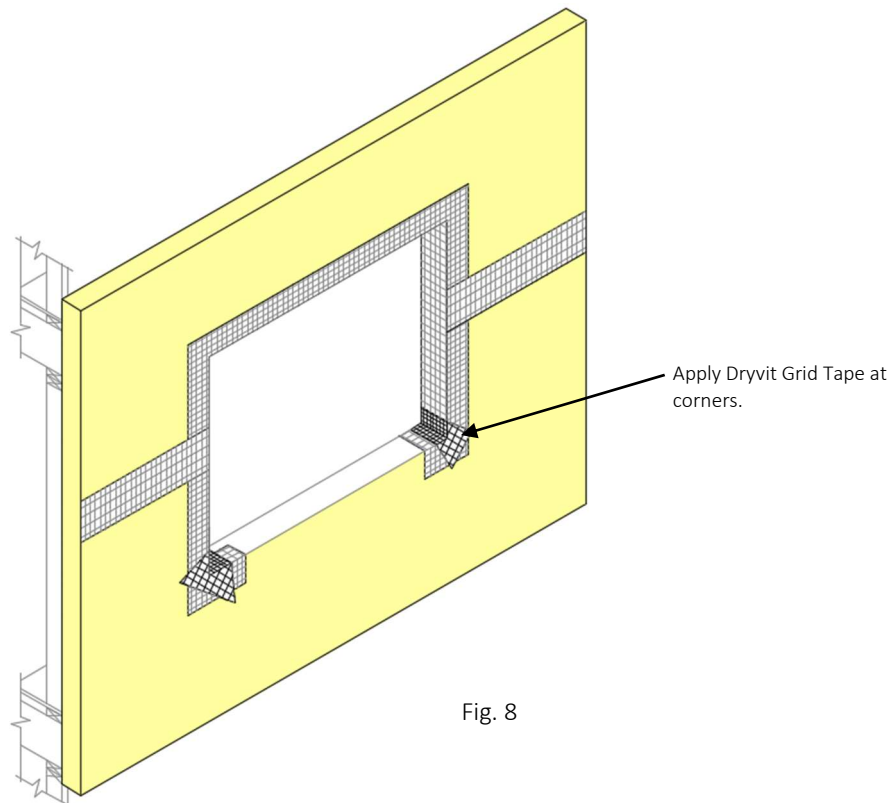

Fig. 8
- 1) Apply Dryvit Grid Tape along the jambs and head of the opening as well as all sheathing joints that may intersect the opening and lap onto face of wall a minimum of 2 in (51 mm). Add additional pieces of Grid Tape at the inside corners of the opening to maintain continuity – **Figure 8.**